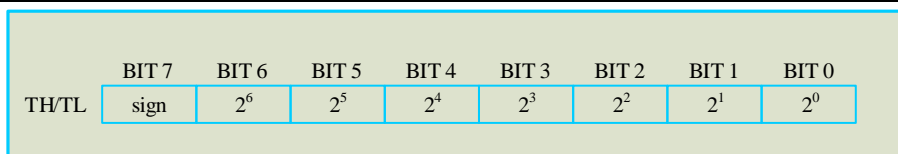

Figure 3. TH and TL Register Format
After the GX18B20 performs a temperature conversion, the temperature value is compared to the user- defined two's complement alarm trigger values stored in the 1-byte TH and TL registers (see Figure 3). The sign bit (S) indicates if the value is positive or negative: for positive numbers $S = 0$ and for negative numbers $S = 1$. The TH and TL registers are nonvolatile (EEPROM) so they will retain data when the device is powered down. TH and TL can be accessed through bytes 2 and 3 of the scratchpad as explained in the Memory section.